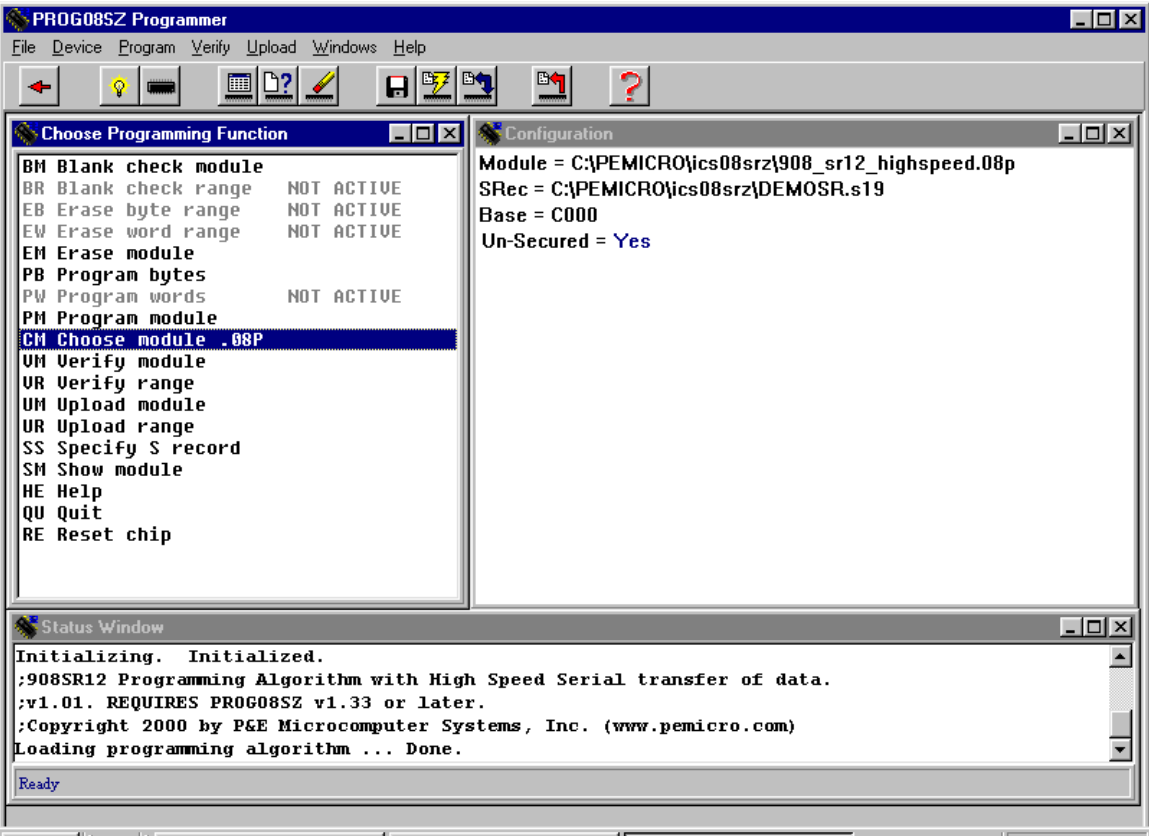

Figure 9. P&E's Programmer Window
- m. Double click on “Erase Module” – EM (see Figure 9).
- m. Double click on "Erase Module" – EM (see Figure 9).